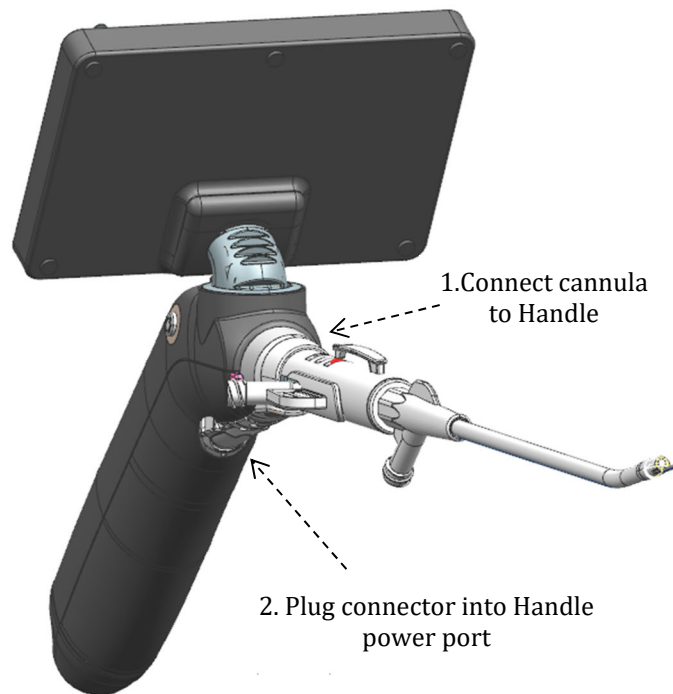

Figure 2. Attach Cannula to Handle
- 5.1.4. Once cannula is connected, insert the male USB connector of the disposable cannula into the USB female connector on the handle. See Figure 2.